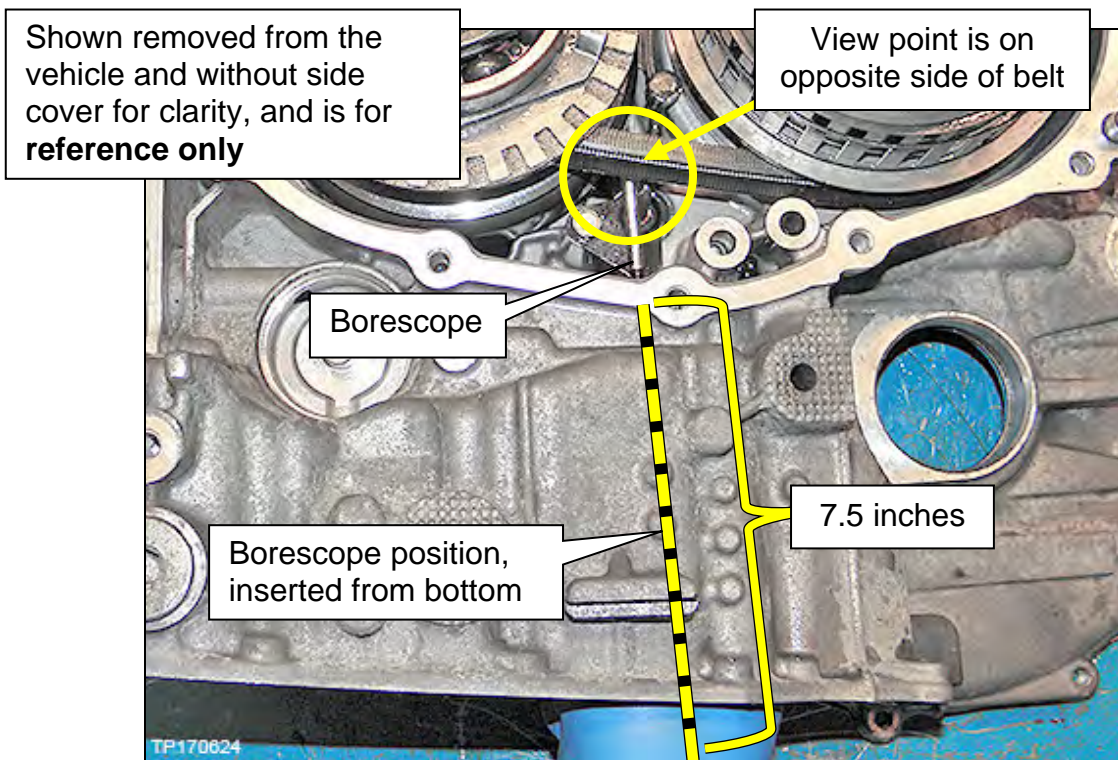

Figure 6C
- II. Insert the lens approximately 7.5 inches from the CVT oil pan gasket surface as shown in Figure 6C on page 15.